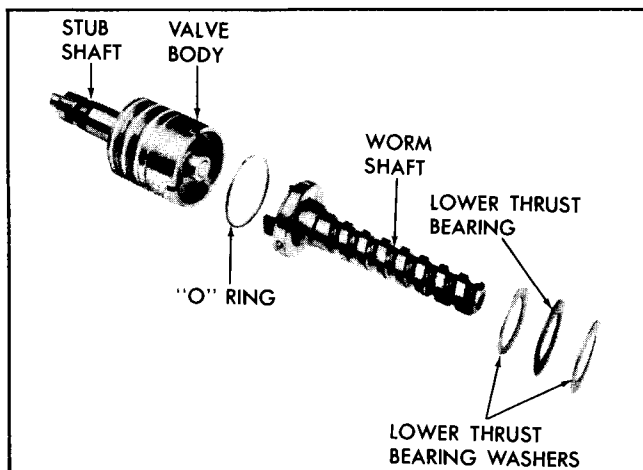

Fig. 9-104 Exploded View of Worm and Valve Body
1. Lubricate the worm, lower thrust bearing and the two thrust washers with power steering fluid, then install one thrust washer, the bearing, and the other thrust washer over the end of the worm (Fig. 9-104).